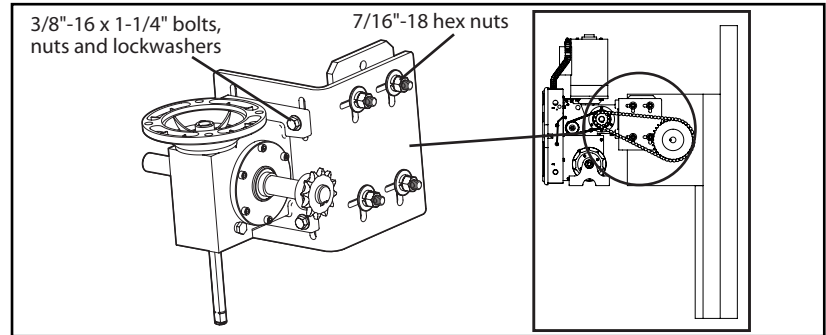

Figure 2 MOUNTING BRACKET BOLT LOCATIONS
- 3) Attach operator to main mounting bracket using the four 3/8"-16 X 1-1/4" bolts, hex nuts, and lockwashers. See **Fig 2**.